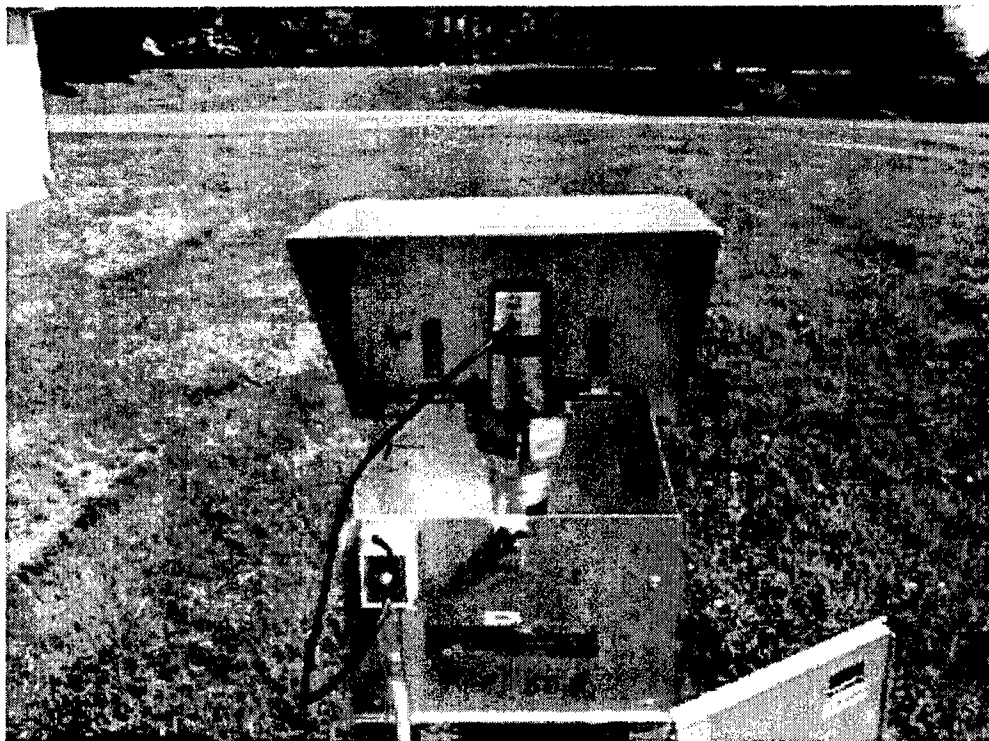

Figure 6-5-1-1. Assembled Transfer Standard, sample module, and manometer.
12. Connect the PS1 orifice transfer standard kit manometer to the orifice pressure tap. The assembled sampler with the transfer standard should resemble Figure 6-5-1-1.